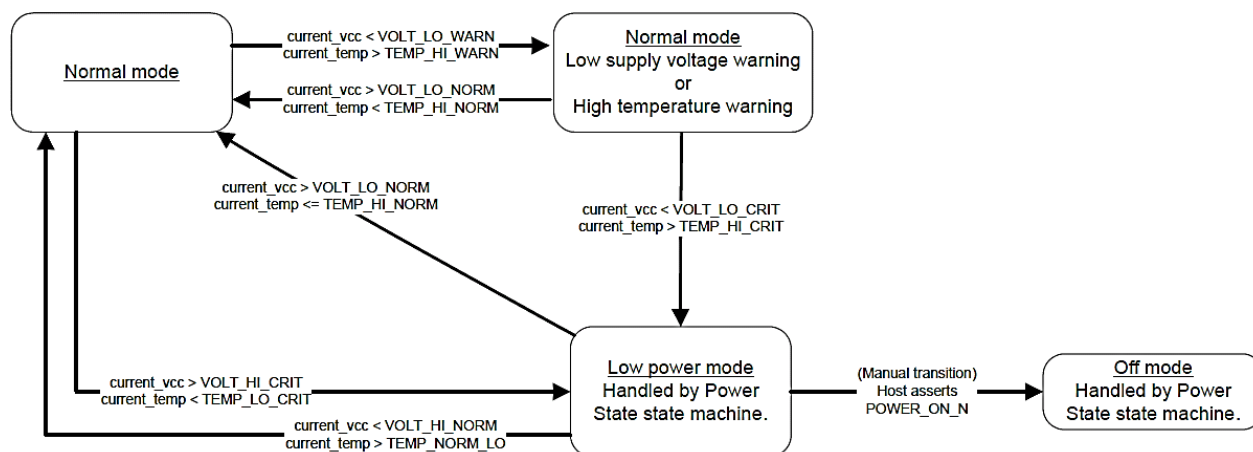

Figure 40. Automatic ("Triggered") Power State Transitions
- Automatically, when critical supply voltage or module temperature trigger levels are encountered. See Figure 40 for details.